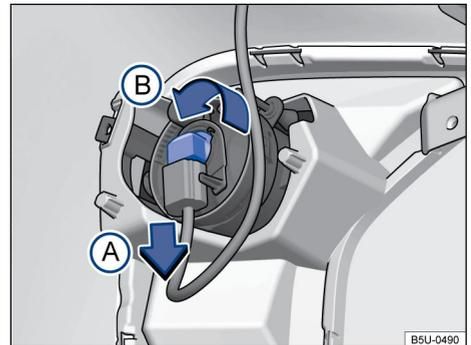

Fig. 137 Behind the front bumper: access to the fog light bulb.
- ① Observe and follow the instructions on the checklist → page 141.
- ② Disconnect the bulb connector → Fig. 137 in the direction of the arrow (A) and press the connector securing lock simultaneously.
- ③ Turn the bulb socket → Fig. 137, in the direction of the arrow (B), and remove it
- ④ The fog light bulb is secured in the holder; the entire bulb/holder assembly must be replaced
- ⑤ Replace the defective bulb with a new bulb of the same type.
- ⑥ Insert the new bulb/socket set into the housing.
- ⑦ Press the socket down as far as possible and turn clockwise.
- ⑧ Ensure that the socket is properly secured.
- ⑨ Fit the bulb connector.